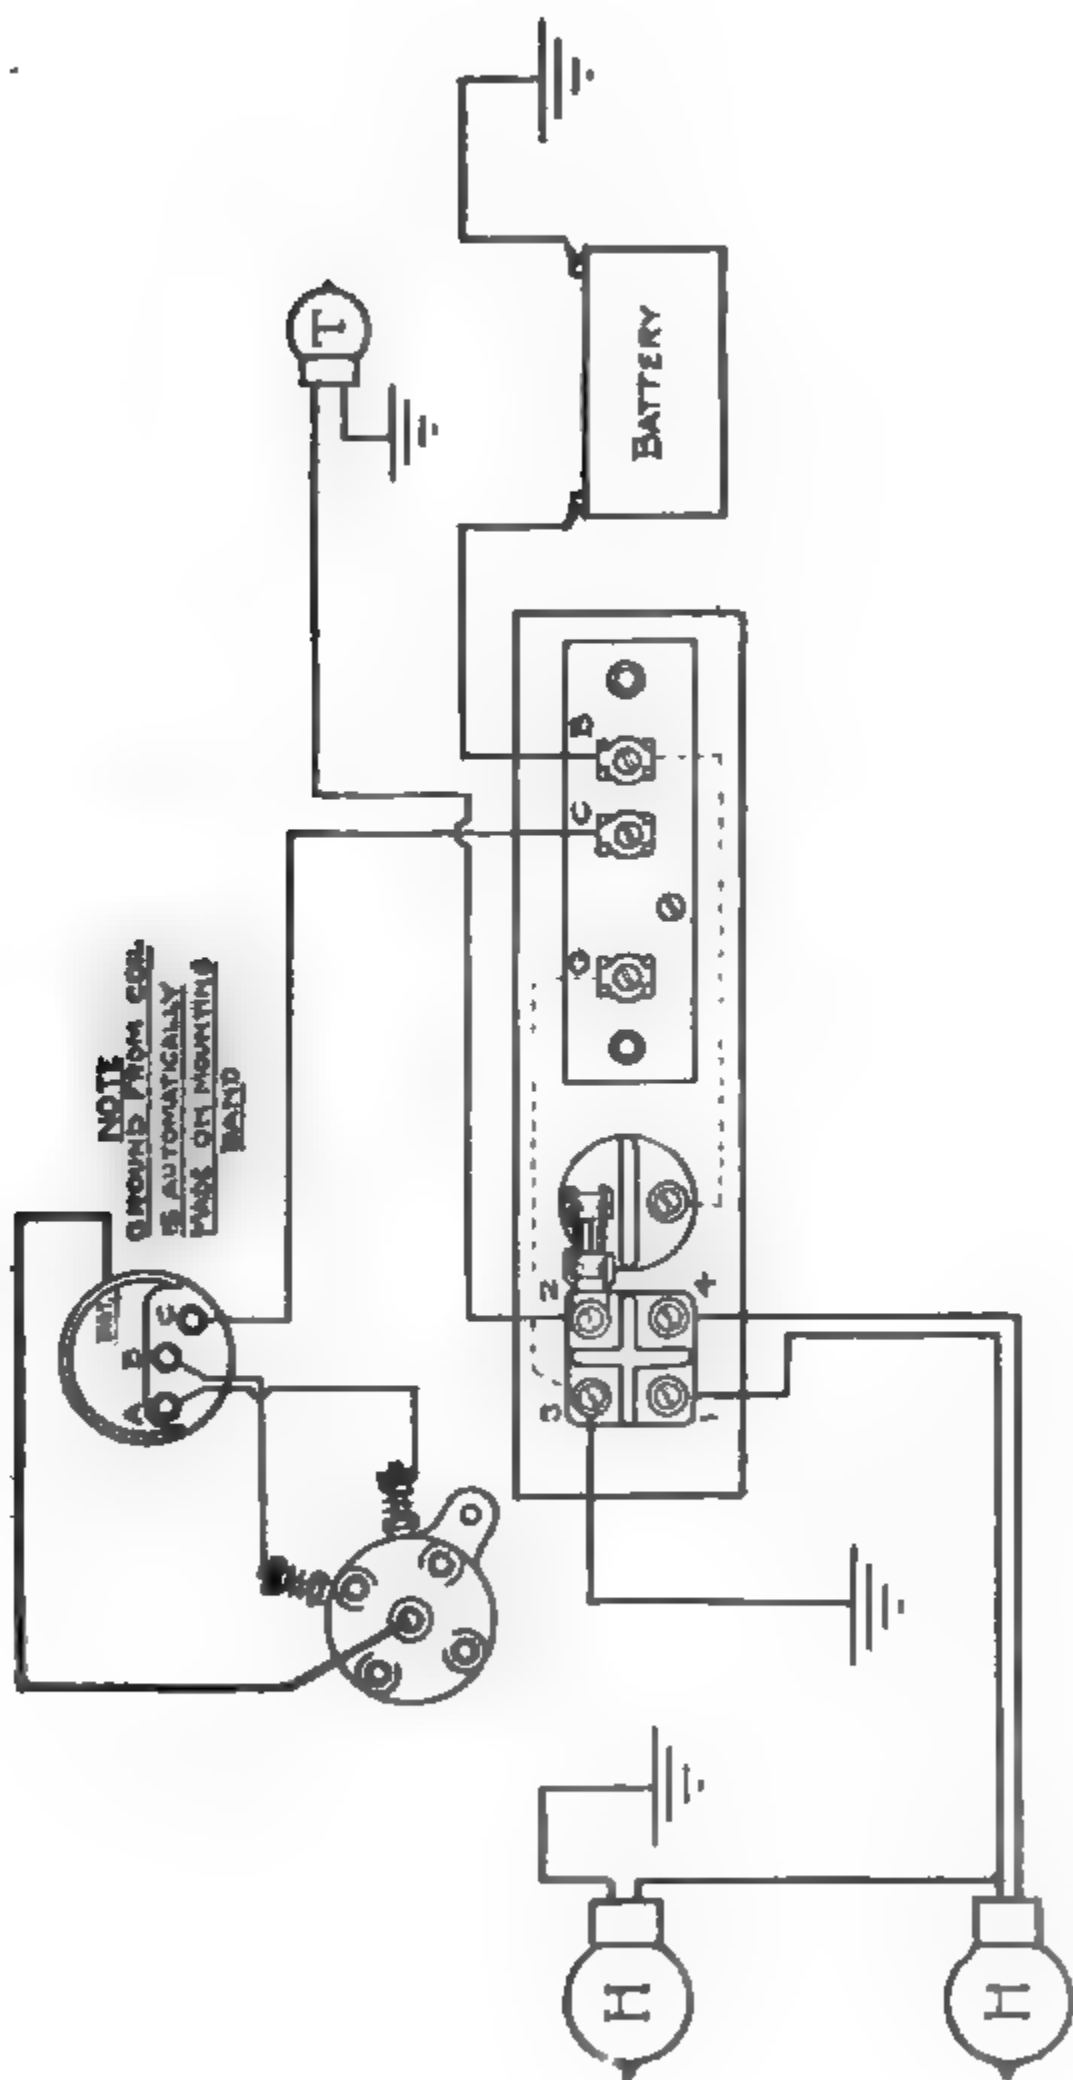

Fig. 124. Wiring Diagram for Connecticut Ignition System
*Automatic Switch.* The purpose of the automatic switch, Fig. 123, is to open the circuit in case the switch button has been left closed with the car stopped. The current passing with the contacts closed when the engine is idle, is much greater than when it is constantly being interrupted by the rapid-fire action of the cam, but, unlike a circuit-breaker, the device is not designed to act instantly upon the passing of an overload current as this would prevent cranking the motor. The device consists of a thermostatic arm regulated by the adjustment screw at the top of the figure, an electromagnetic vibrator the armature of which carries a hammer, and the necessary electrical connections. Current enters at either the right- or left-hand screw at the bottom, according to whether the switch is closed at the end of the sectors at the right or left of the figure (*M* or *B* on the switch cover plate), and flows through the heater tape on the arm of the thermostat to the screw at the upper right in the figure. The heater tape is a resistance that becomes warm upon the passage of a certain amount of current for a short time and, with an increase in temperature, causes the arm of the thermostat to bend upward so that it makes contact with the upper thermostatic arm. This puts the windings of the magnet in circuit through the post just below the magnet coils and sets the vibrator in motion, causing the hammer on the armature to strike the switch button and open the circuit. Fig. 124 is a typical wiring diagram in connection with the lighting system, the automatic switch being combined with the lighting switch.
*Automatic Switch.* The purpose of the automatic switch, Fig. 123, is to open the circuit in case the switch button has been left closed with the car stopped. The current passing with the contacts closed when the engine is idle, is much greater than when it is constantly being interrupted by the rapid-fire action of the cam, but, unlike a circuit-breaker, the device is not designed to act instantly upon the passing of an overload current as this would prevent cranking the motor. The device consists of a thermostatic arm regulated by the adjustment screw at the top of the figure, an electromagnetic vibrator the armature of which carries a hammer, and the necessary connections. Current enters at either the right- or left-hand screw at the bottom, according to whether the switch is closed at the end of the sectors at the right or left of the figure (*M* or *B* on the switch cover plate), and flows through the heater tape on the arm of the thermostat to the screw at the upper right in the figure. The heater tape is a resistance that becomes warm upon the passage of a certain amount of current for a short time and, with an increase in temperature, causes the arm of the thermostat to bend until it makes contact with the upper thermostatic arm. This puts the windings of the magnet in circuit through the post just below the magnet coils and sets the vibrator in motion, causing the hammer on the armature to strike the switch button and open it. Fig. 124 is a typical wiring diagram in connection with the lighting system, the automatic switch being combined with the lighting switch.